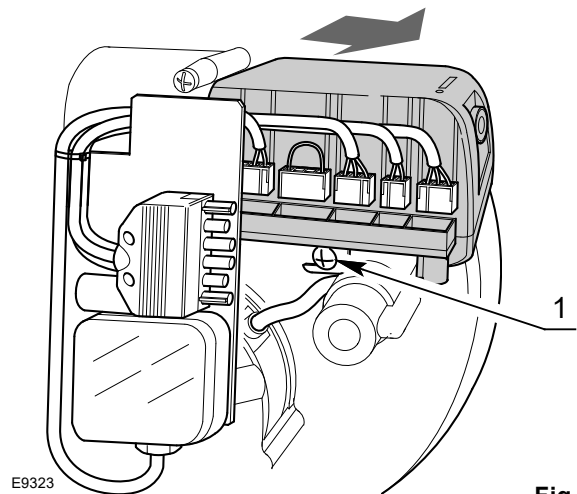

Fig. 19
- disconnect all the connectors connected to it, the 6-pin plug, the high voltage cables, and the earth wire (TB);
- loosen the screw 1)(Fig. 19) and pull the flame control in the direction of the arrow.